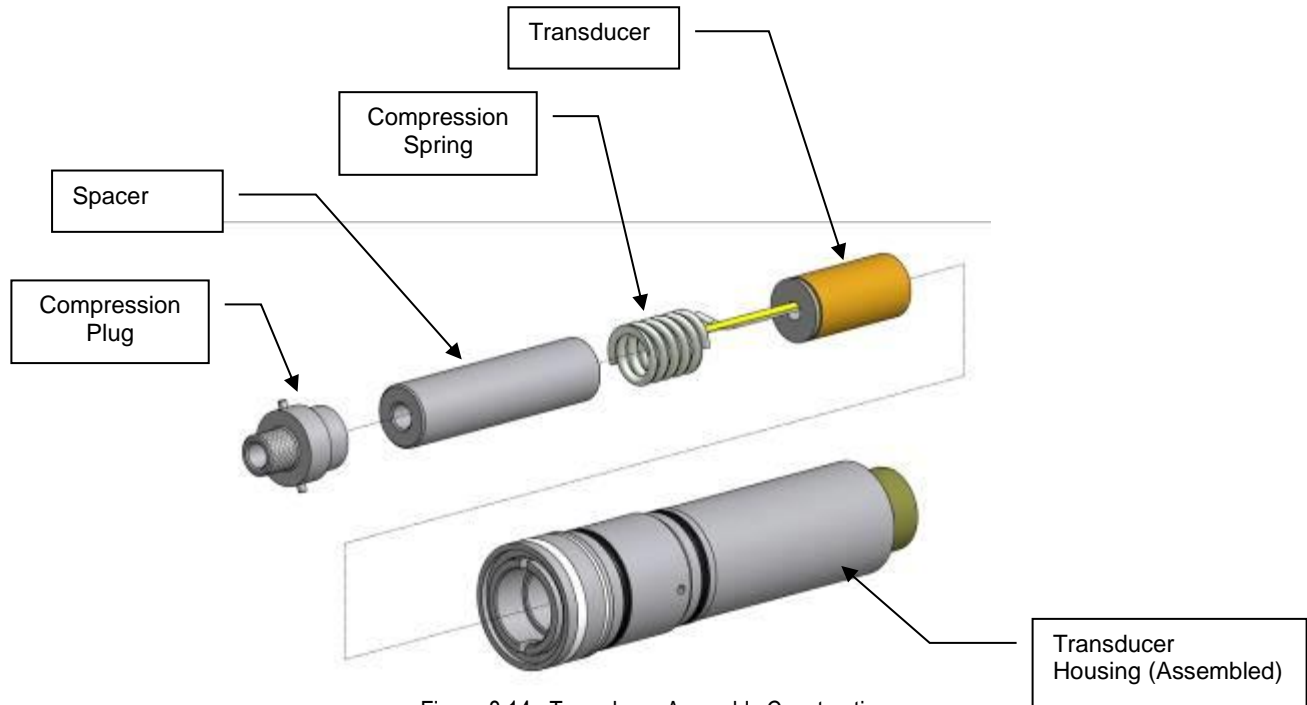

Figure 8.14: Transducer Assembly Construction
3. Disconnect the transducer leads from the transformer terminal block. If necessary, remove the transformer circuit board. Remove the compression plug retaining the transducer (Figure 8.14) Push in and turn clockwise to release.